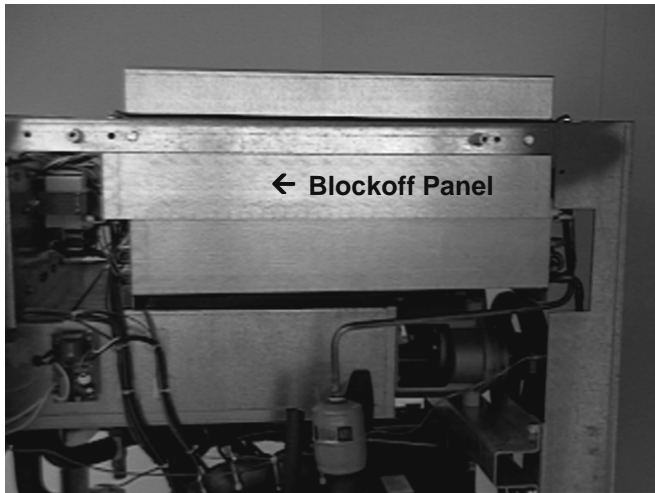

Figure 48. Block Off Panel
1. Place the gear box in position from the rear of the freezer and fasten the four bolts through the gear box to the rear of the barrel. Figure 48.